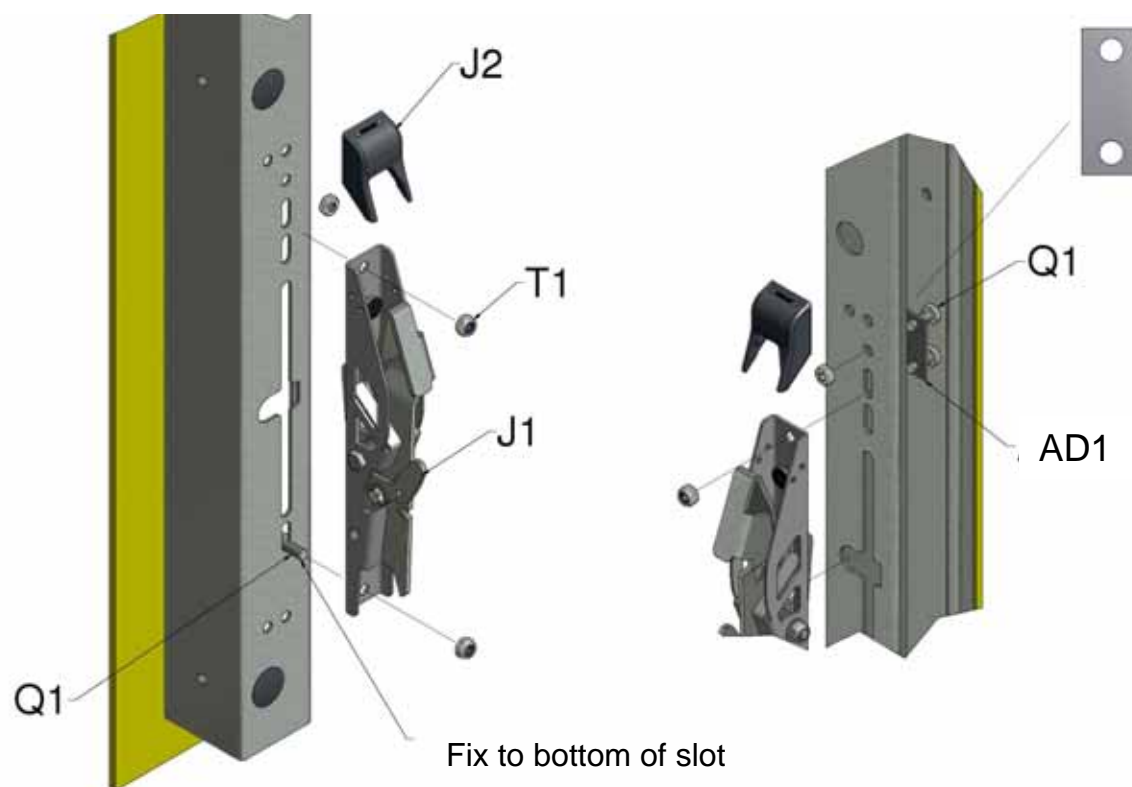

Figure 13, Bolting of Locking Catches and Bolting Together Guide Rails
11. Bolt the locking catches (J1) to the pre-punched slots at the base of the guide rails using the M8x20 set screws (Q1) and lock nuts supplied (T1). Pass the upper catch screws through the locking catch stop plate (AD1) fitted on the inside of the guide rail to prevent the catch sliding up the pre-punched slots. Ensure the swinging arm of the locking catch clears the long slot in the guide rail (Figure 13). Fit caps (J2) to top of locking catches.